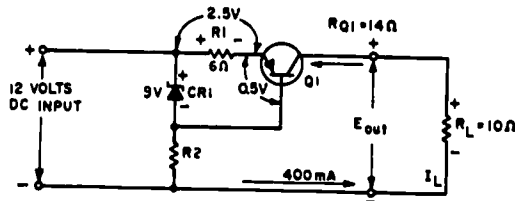

Fig 4-43. Current regulator (with a decrease in R_L).
Since you are familiar with the basic current regulating circuitry, let's examine in detail how the various components work to maintain the constant 400-milliamperes output. Refer to the schematic shown in figure 4-43. Remember, a decrease in load resistance causes a corresponding increase in current flow. In the example shown, the load resistance R_L has dropped from 15 ohms to 10 ohms. This results in a larger voltage drop across R1 because of the increased current flow. The voltage drop has increased from 2.4 volts to 2.5 volts. Of course, the voltage drop across CR1 remains constant at 9 volts due to its regulating ability. Because of the increased voltage drop across R1, the forward bias on Q1 is now 0.5 volt. Since the forward bias of Q1 has decreased, the resistance of the transistor increases from 9 ohms to 14 ohms. Notice that the 5-ohm increase in resistance across the transistor corresponds to the 5-ohm decrease in the load resistance. Thus, the total resistance around the outside loop of the circuit remains constant. Since the circuit is a current regulator, you know that output voltage will vary as the regulator maintains a constant current output. In the figure, the voltage output is reduced to 4 volts, which is computed by multiplying current (I) times resistance (R) (400 mA x 10 ohms = 4 volts).
10. In figure 4-43 any decrease in the base-emitter forward bias across Q_1 results in _____ in the resistance of the transistor.